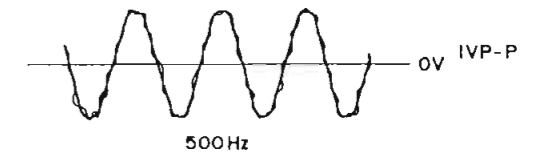

Fig. 53
3. Adjust R239 so that there is a sine wave of 1Vp-p on the oscilloscope. (See Fig. 53)